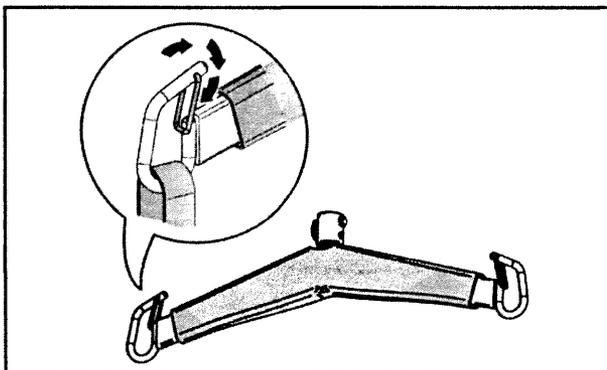

Fig. 11
The spreader bar has two hooks at either end of the bar; always use these for the shoulder strap loops (see Fig. 11).
When attaching a loop sling to the two-point spreader bar, always ensure the sling attachment loops are positioned correctly into the safety latches as shown in Fig. 11.
**WARNING: Before lifting the patient, check that the sling attachment loops are securely positioned within the spreader bar hooks (see Fig. 11) and that the loops stay in place as the patient is gradually lifted.**